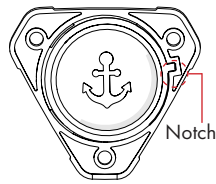

Figure 2
**STEP 6** Install the **Membrane** to the **Bottom Housing** so the **Tab** goes into the **Notch** on the **Bottom Housing**. Make sure the **Plastic Disc** does not fall out. **FIG 2**